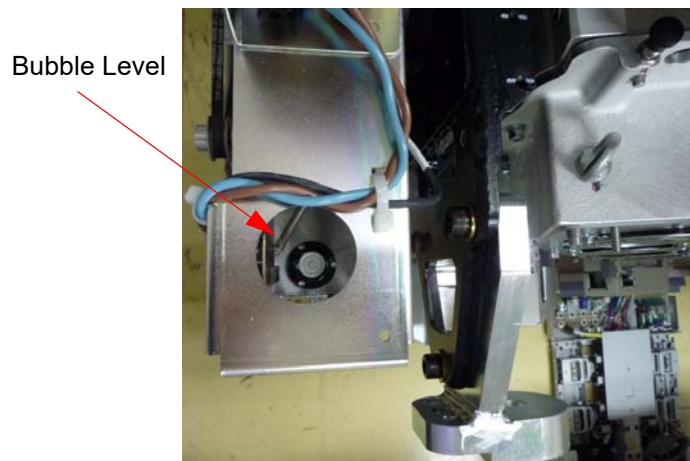
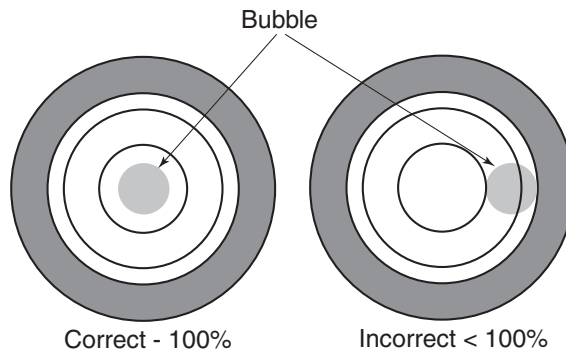

Figure 1-11 Gantry Bubble Level
Figure 1-13 Bubble Level Centering
Bubble levels are located on both ends of the gantry stationary base. They're located on the stationary base near a point where the rotating structure pivots mount to the base structure. (See Figure 1-11.) The gantry is properly leveled when the bubble is centered. (See Figure 1-13, on page 46).
- 3.) When the bubble levels are centered (Figure 1-13), each of the four (4) leveling pads should be carrying a portion of the gantry weight. Distribution of the gantry weight prevents the base frame from rocking during normal operation. **DO NOT leave any adjuster un-loaded or floating.**